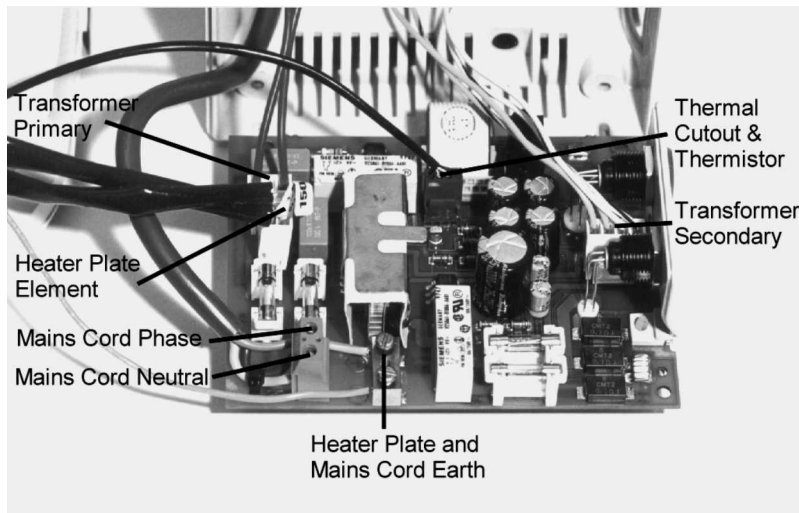

Figure 7.4 Showing Humidifier Power PCB wiring
2. Disconnect all harnesses attached to the power PCB. Disconnect the mains and protective earth wires by unscrewing the terminal blocks, and cutting the cable ties (Figure 7.4).
5. Replace the mains fuses (F3, F4) with the correct type, and attach mains and protective earth wires, using the cable ties provided (Figure 7.4).
2. Unscrew the three mains cable wires from the terminal blocks on the power PCB (see Figure 7.4), and cut the cable tie on the PCB.